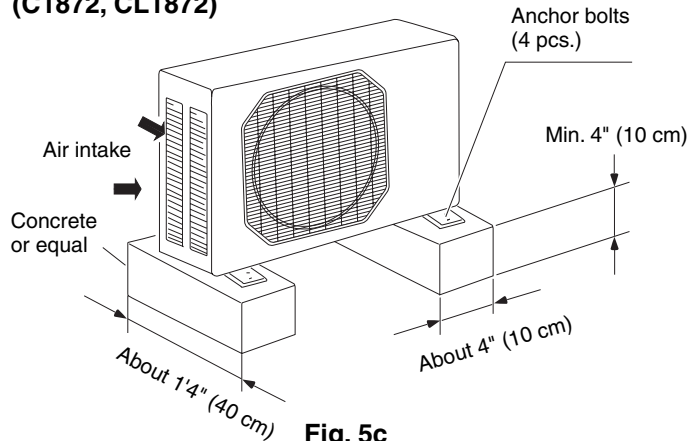

Fig. 5c
- provide a solid base (level concrete pad, concrete block, 4" × 1' 4" (10 × 40 cm) or 6" × 1' 4" (15 × 40 cm) beams or equal), a minimum of 4" (10 cm) or 6" (15 cm) above ground level to reduce humidity and protect the unit against possible water damage and decreased service life. (Fig. 5c or 5d)